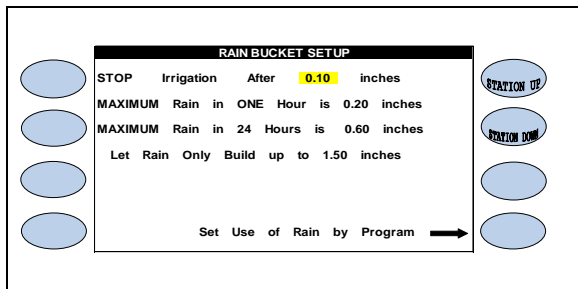

Figure 5.10
The RAIN BUCKET SETUP screen is displayed (Figure 5.10).
- **Stop irrigation after:** This setting determines how much rain must fall, before the controller will start accumulating rainfall values in the rain table. It also determines when to halt any on going irrigation. In figure 5.10, **(0.10)** inches of rain will have to fall before any rain data starts to accumulate in the rain table, or irrigation is stopped.
- **Maximum Hourly Rain:** This setting determines the maximum amount of rain that will be put in the rain table after a period of one (1) hour of rain. In figure 5.10, a maximum of **(0.20)** inches of rain will be put into the rain table, no matter
- **Maximum 24 Hour Total:** This setting determines the maximum amount of rain that will be put into the rain table in a 24 hour period. In figure 5.10, a maximum of **(0.60)** inches of rain will be put into the table, no matter how much rain falls in a 24 hour period. The amount of rain from this setting put into the rain table, will increase only until it reaches the LET RAIN ONLY BUILD UP TO :setting.
- **Let Rain Only Build Up to:** This setting determines the maximum amount of rain that will be stored in the rain table. In figure 5.10, the controller will stop storing rain data in the rain table if the Maximum 24 Hour Total reaches **1.50** inches of rain.
From the RAIN BUCKET SETUP screen (Figure 5.10).